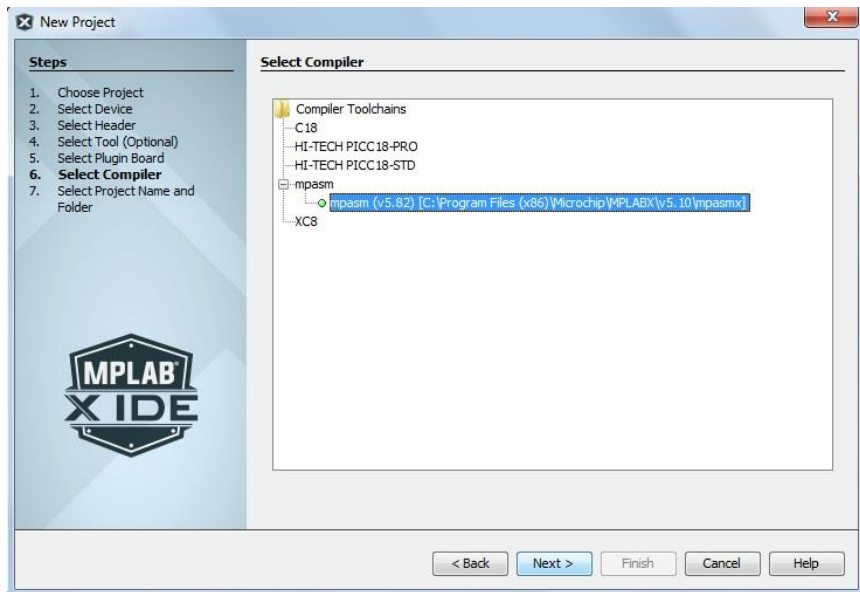

Fig 4.11 New Project – Select Compiler Window
6. In the “Select Tool” window under Hardware Tools section select “Simulator” option. Click Next and a “Select Compiler” window appears as shown in Fig 4.11.